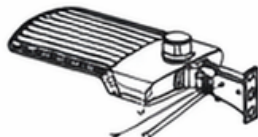

Figure 7
4. YOKE MOUNTING (YM)
Step 1: Remove the bracket mounting screws on the fixture and run the wires through the bracket. (Figure 7)